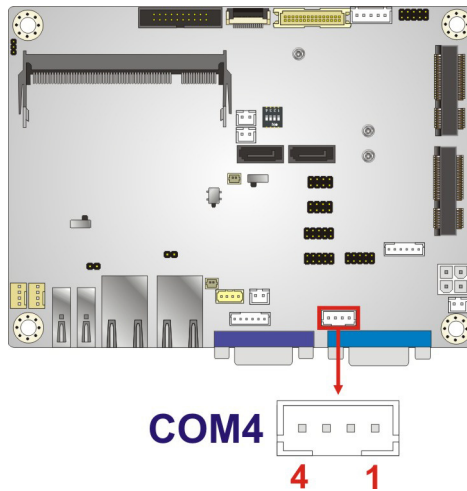

Figure 3-19: RS-422/485 Connector Location
- CN Location: See Figure 3-19